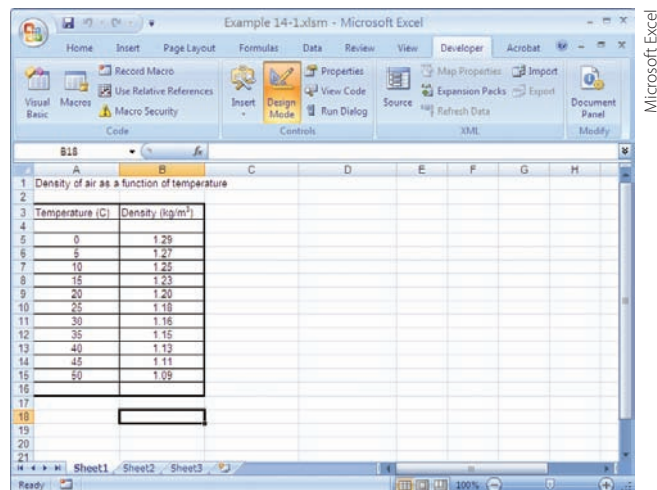

FIGURE 14.49
- Open a new Excel workbook, and in Sheet1 type in the content shown in Figure 14.49. Save it as VBA_Lesson_2.xlsm.